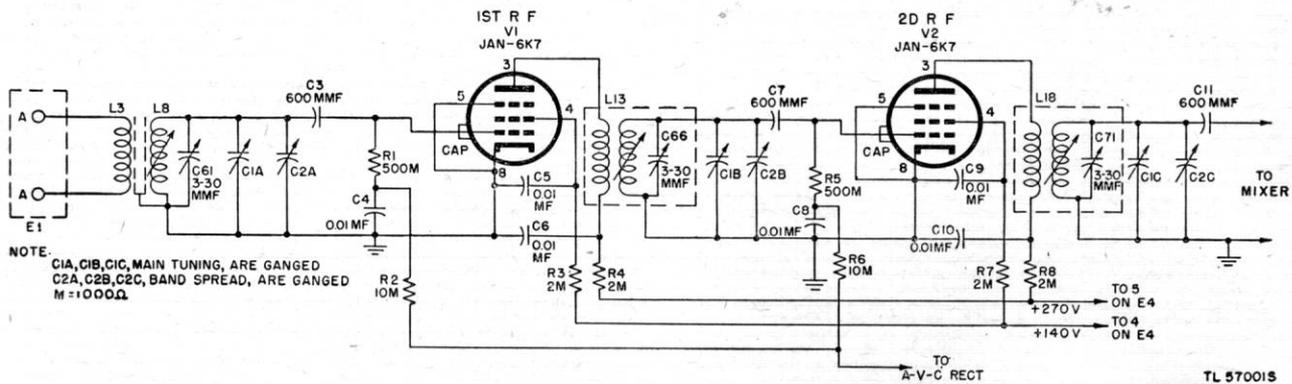

Figure 25. Radio Receiver BC-779-B, functional diagram of r-f amplifier.
##### 59. R-F Amplifier (fig. 25)
For simplicity, only the circuits for the 2.5- to 5.0-mc band are shown and the band switching arrangement is omitted from figure 25. The band switching circuits are discussed in paragraph 68.
c. DIFFERENCES IN R-F CIRCUITS. (1) *Plate supply.* In Radio Receivers BC-779-(\*), BC-1004-(\*), and R-129/U, plate voltage is series-fed through resistance-capacitance (R-C) decoupling circuits and the r-f transformer primaries (fig. 25). In Radio Receiver BC-794-(\*), plate voltage is shunt-fed by means of choke L35 and 300-mmf capacitor C57 in the first stage, and choke L36 and 300-mmf capacitor C58 in the second stage (figs. 26 and 57). This method was chosen to keep plate voltage off the tuned impedance interstage coupling circuits L49, C99, and L50, C100, of the 20-40-mc band. Decoupling filters R4, C6, and R8, C10, are not included.